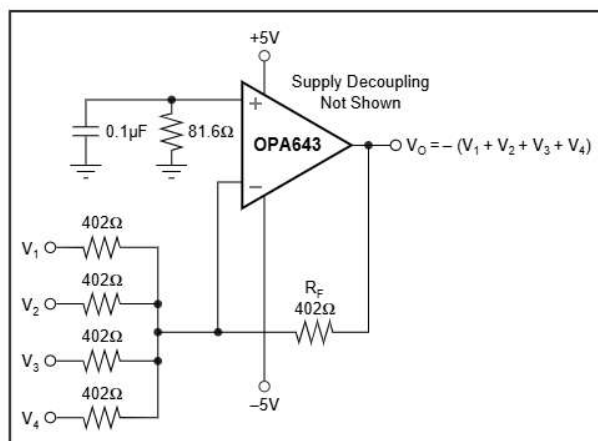

FIGURE 4. Wideband Inverting Summing Amplifier.
One common application for a wideband op amp like the OPA643 is to sum a number of signal sources together. Figure 4 shows the inverting summing configuration that is most often used. This circuit offers the benefit that each input sees an input impedance set only by its individual input resistor, since the summing junction (inverting op amp node) is a virtual ground. Each input is non-interactive with every other. However, the bandwidth from any input to the summed output is set by the op amp noise gain (NG), equal to the non-inverting voltage gain. So, even though each inverting channel may have a low gain to the output (like the -1 shown in Figure 4), the overall noise gain will set the frequency response and the loop stability. The non-inverting gain for Figure 4 is equal to +5 which will give a 200MHz bandwidth at a gain of -1 for each of the input signals.